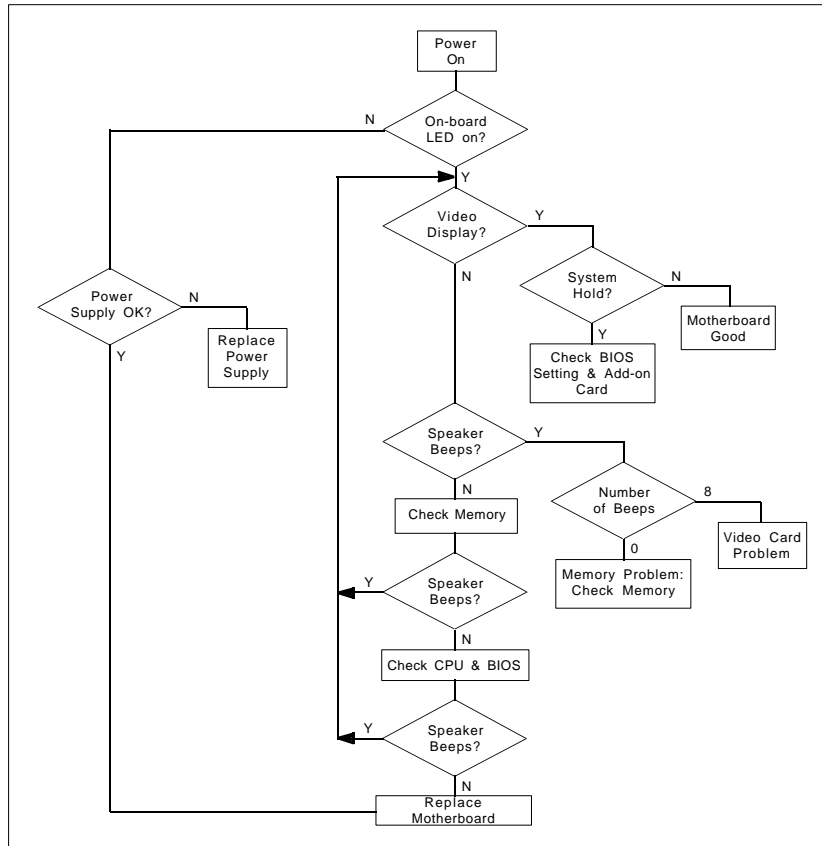

Figure 3-1. Troubleshooting Flowchart
1. If you have no video, follow the flowchart in Figure 3-1